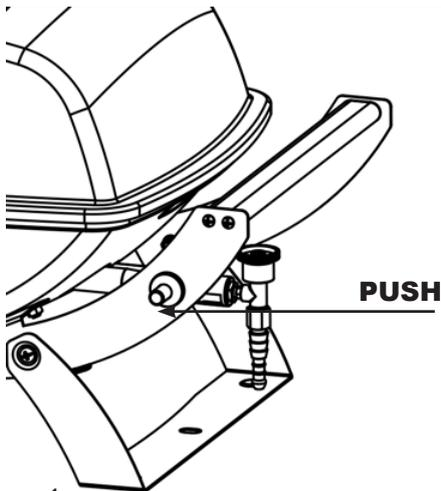

Figure 1
3. Press the ignition button sited on upper right front leg up to four times in rapid succession, see figure 1. The burner should light. Observe the burner flame and make sure all burner ports are lighted. A blue/yellow flame of 2.5–5 cm should appear from the burner.